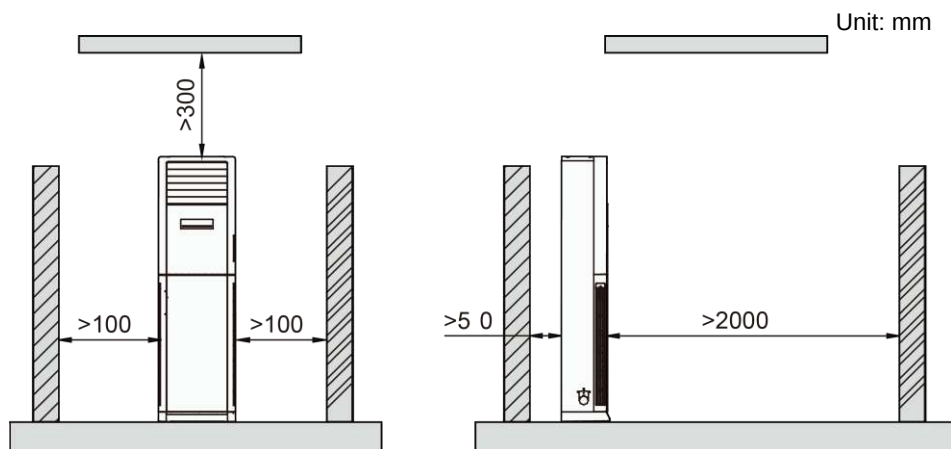

Fig. 3.1
- (2). Select a place avoid the water vapor or oil sprayed on the unit.
- (3). Ensure that airflow can reach every conner of the room.
- (4). Choose a place so that the connection pipe could be easily pulled out.
- (5). Select the place where the airflow of the unit can not be blocked.
- (6). Select the position where the few outer air influenced.
- (7). Select the firm and flat ground.
- (8). Ensure sufficient clearance and space for service and maintenanc.
- (9). Ensure the installation of indoor unit is in conformity with the requirements of installation dimension drawing;
- (10). Do not use the unit in the immediate surroundings of a laundry a bath a shower or a swimming pool.
- (11). A location from which the condensation water can be drained out conveniently.
- (12). Leave service space around the unit as required in Fig. 3.1.